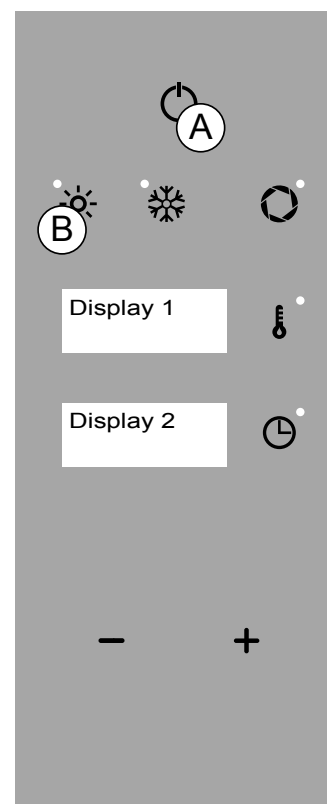

Fig.1
- "OFF" mode: clock display (Fig. 1 Display 2).
- "STAND BY" mode: oven name and clock display (Fig. 1 Displays 1 and 2).
- "MAIN MENU" mode: "CONVECTION" function active (Fig.1/B), temperature 180°C (Fig.1 Display 1) and time 0:00 (Fig.1 Display 2).
In "function selection" or "parameter selection" mode, after 5 seconds of inactivity the oven memorizes the function or value displayed (Fig.1 Display 1-2).
**At the end of the set time, the word "END" flashes on the screen (Fig. 1 Display 1-2).
Press the "ON/OFF" button (Fig 1/A) twice to return to "STAND BY mode.**